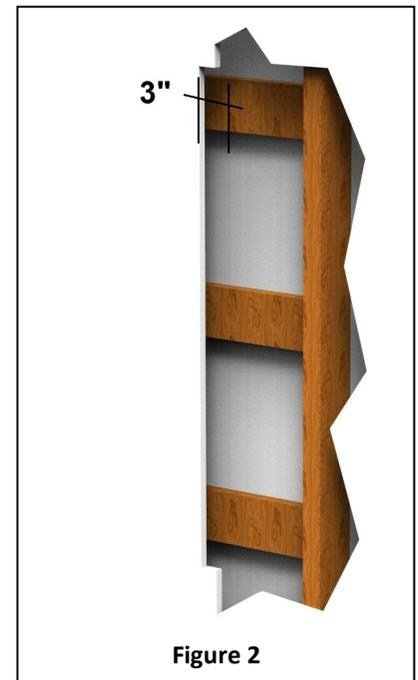

Figure 2
Step 3. Install wood blocking in area where fixture will attach inside wall (*drywall shown cut-away for illustration purposes*). Blocking should be placed so that mounting screws spaced 32½" apart will insert securely into wood. Face of blocking should be no less than 3" from face of drywall to ensure that the fixture housing does not extend beyond the drywall. (Fig. 2)